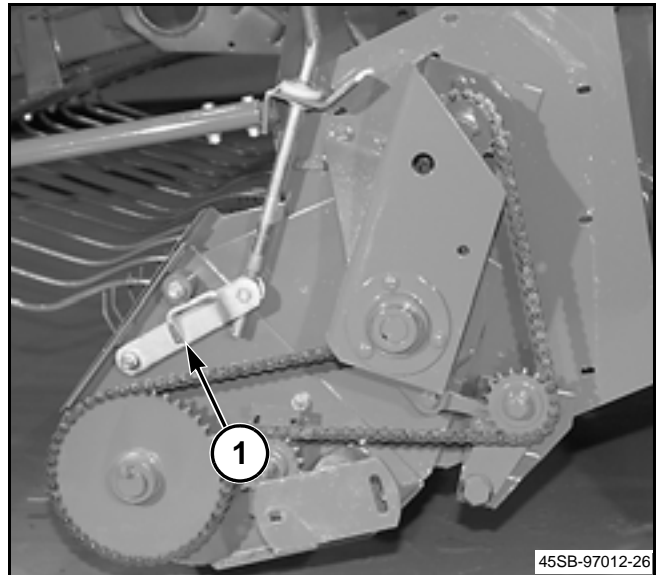

FIG. 9
FIG. 9: The pickup height adjustment strap (1) controls the height of the tines above the ground. Set tine height according to instructions in the Adjustments Section.